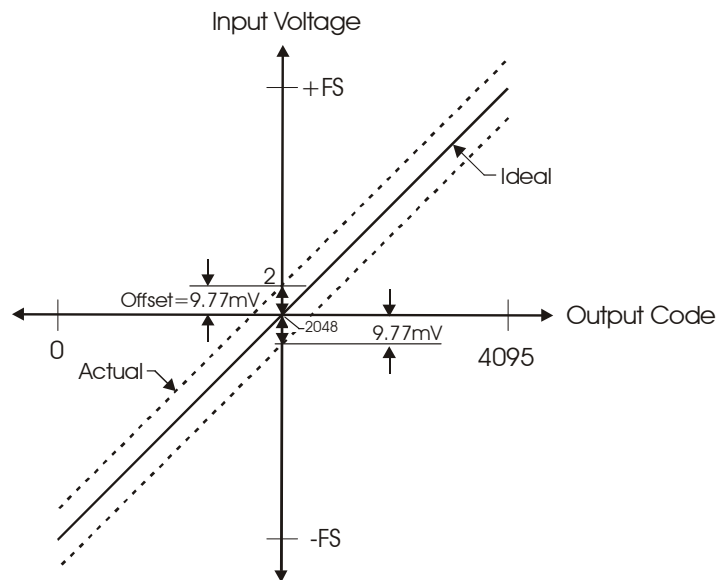

Figure 3-11. ADC transfer function with offset error
The USB-1208LS offset error is measured at mid-scale. Ideally, a zero volt input should produce an output code of 2048. Any deviation from this is an offset error. Figure 3-11 shows the USB-1208LS transfer function with an offset error. The typical offset error specification on the  $\pm 10$  V range is  $\pm 9.77$  mV. Offset error affects all codes equally by shifting the entire transfer function up or down along the input voltage axis.
**The accuracy plots in Figure 3-11 are drawn for clarity and are not drawn to scale.**